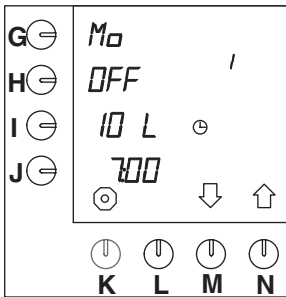

Fig. 44 Pre-programmed settings (inactive)
There are fourteen pre-programmed "time settings" for all days of the week. As soon as these are activated through the procedure below, they will only be active and visible in the user mode. All settings can be set as desired. The fourteen settings are default (fig. 44):
- Press selection key (N.)↑ until fig.44 appears on the display.